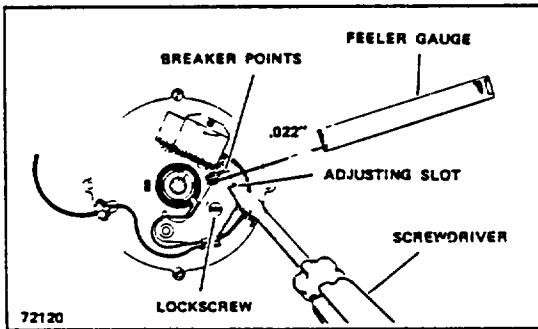

Figure 66. Adjusting Contact Gap
4. Rotate crankshaft until the breaker lever rubbing block is on a high spot on the cam, thus opening the contact points to their maximum open position. Next, turn the eccentric adjusting screw to obtain the specified contact point gap of .022". (See Figures 66 and 67.) Lock points in this position by tightening the contact point locking screw. After tightening contact screw, recheck the point gap with .022" feeler gauge.